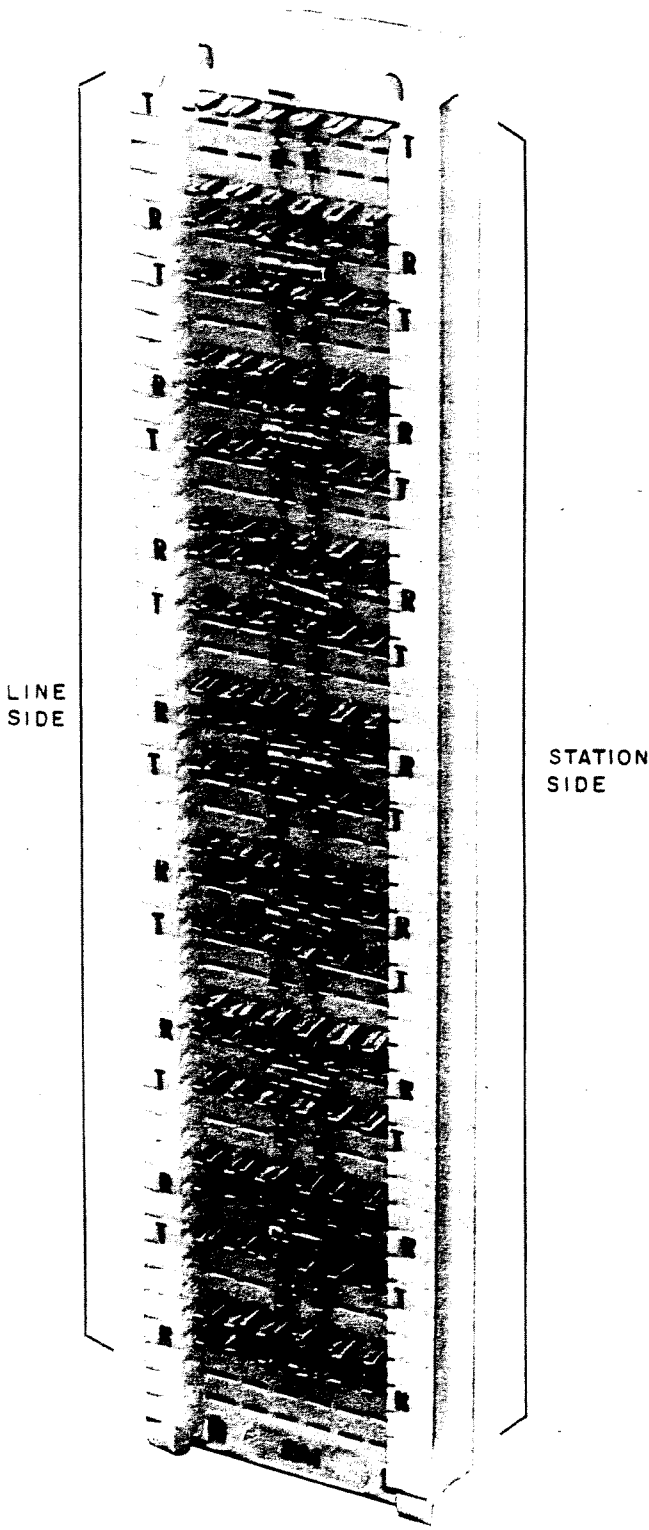

Fig. 1—2A1 Matrix Block
1.01 This section contains information on the 2A1 matrix block (Fig. 1) which provides polarity guard circuits for use with key telephones arranged for multiline conferencing.